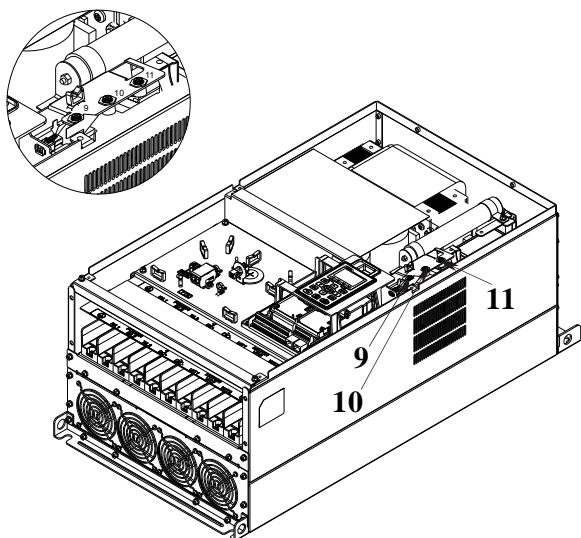
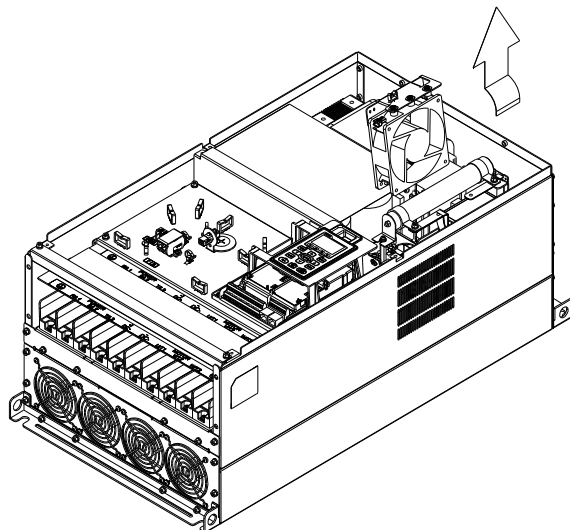

Figure3
Figure 4
4. (Figure 4) Loosen the screws 1~4. Screw torque: 24~26kg-cm (20.8~22.6in-lbf).
(1) Loosen the screws 1~4 (as shown in figure below) and remove the cover. Screw torque: 14~16kg-cm (12.2~13.9lb-in).
(2) Loosen the screws 5~8 (as shown in figure below) and remove the cover. Screw torque: 24~26kg-cm (20.8~22.6lb-in).
- (3) As shown in the partially enlarged image, disconnect the fan's power.
- (4) Loosen the screws 9~11 (figure 3) and remove the fan (figure 4). Screw torque: 24~26kg-cm (20.8~22.6lb-in)